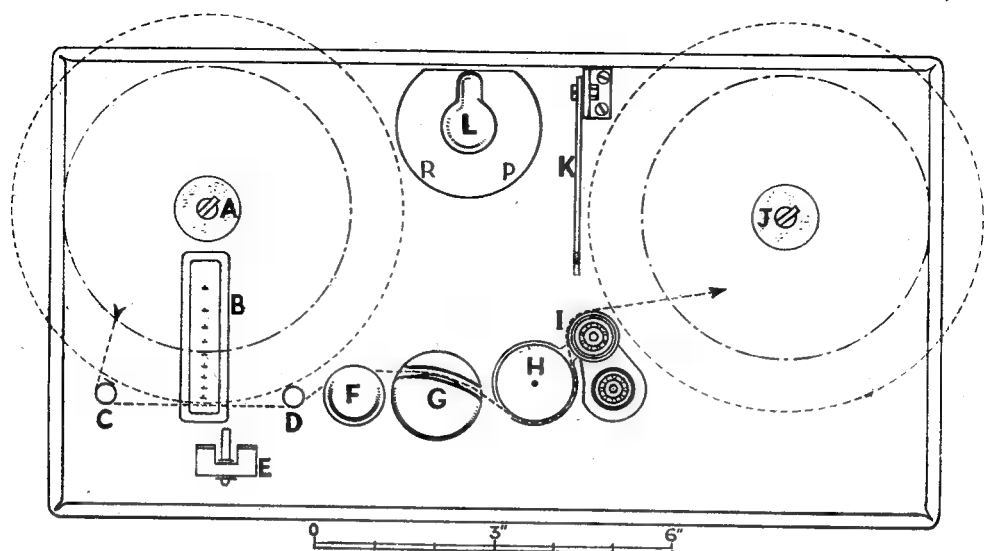

Fig. 8. Plan of deck in rewind position. The tape is indicated in the playback position
(2) The Deck
Figs. ■ and 9 show ■ plan of the deck from above and ■ reversed plan from below. In Fig. 8 the parts shown are (A) Rewind shaft, (B) Cueing scale, (C) and (D) tape guides, (E) Permanent magnet, (F) Erase head, (G) Record/playback head, (H) Capstan, (I) Pressure roller, (J) Take-up shaft, (K) Lid strut, and (L) Control knob.
It will be seen that the components of the deck have been arranged so that 7 in. reels may just be accommodated with the lid open (note pecked circles in Fig. 8) and 5 in. reels can be played with the lid closed (note chain-dot circles).